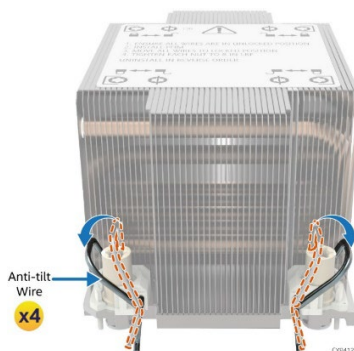

Figure 18. Setting the Processor Heat Sink Anti-tilt Wires to the Outward Position
1. Position the Pin 1 indicator of the carrier clip with the Pin 1 indicator of the processor (See Figure 18).